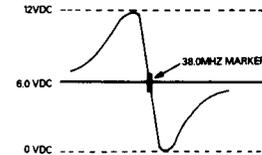

Figure 5
- (1) After finishing PIF adjustment, move input terminal of Scope to the pin 16 of IC110.
- (2) Adjust the Gain Control Knob to be proper.
- (3) Adjust L117 so that the scope waveform should be as shown in figure 5.